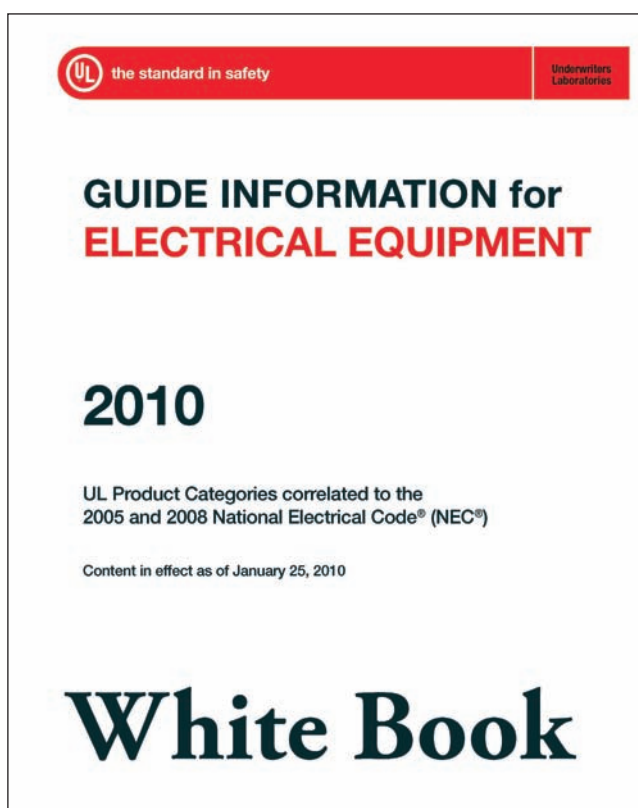

FIGURE 1-9 Underwriters Laboratories White Book (Courtesy Underwriters Laboratories)
- *Guide Information for Electrical Equipment (White Book)*, Figure 1-9